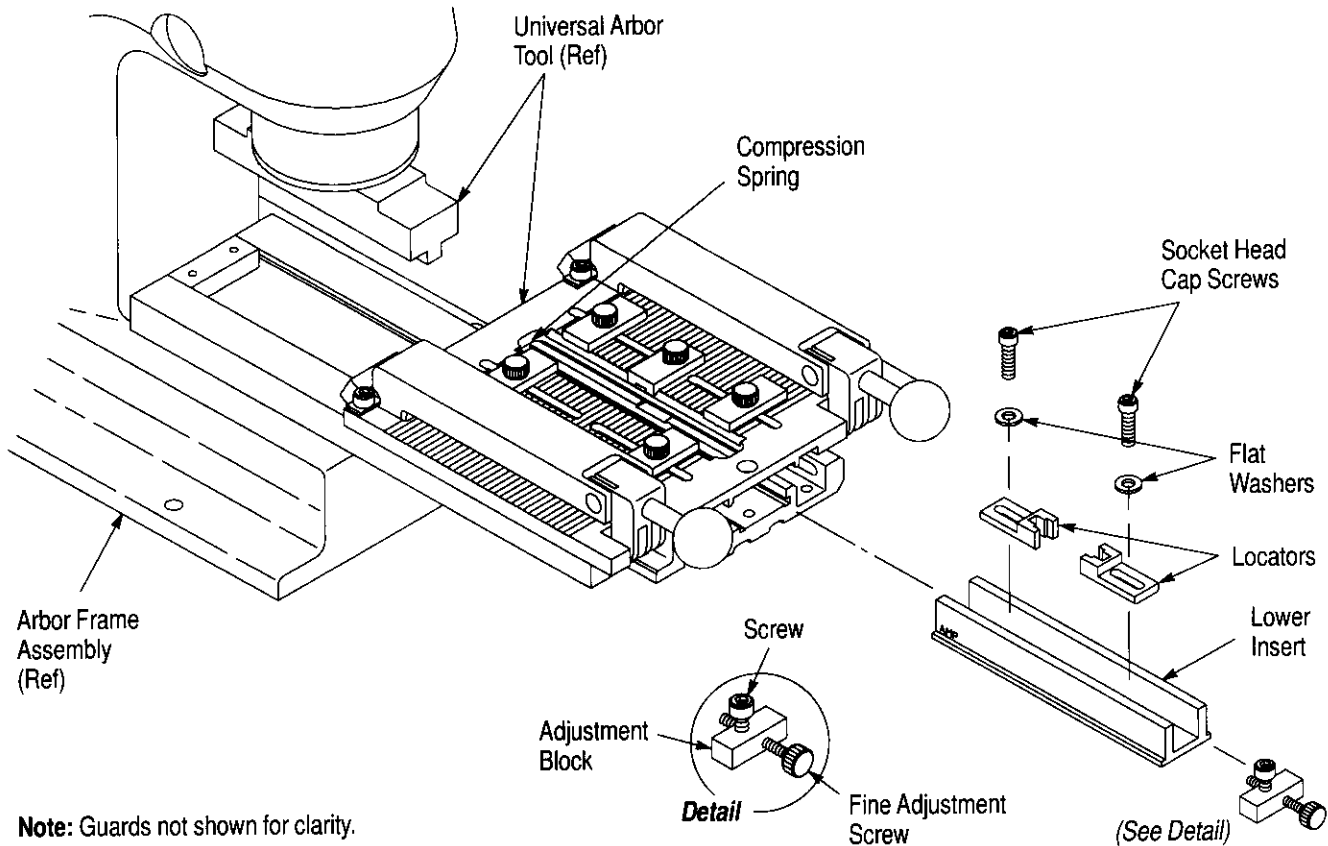

Figure 2
1. Secure the locators onto the lower insert using the flat washers and socket head cap screws. Tighten the screws just enough to hold the locators in place. Refer to Figure 2.
adjustment block. Slide the lower insert onto the base assembly until it is against the compression spring. See Figure 2.
5. Re-assemble the adjustment block. Make sure to orient the block so that the fine adjustment screw is closest to the right side and bottom side of the block. See detail in Figure 2.